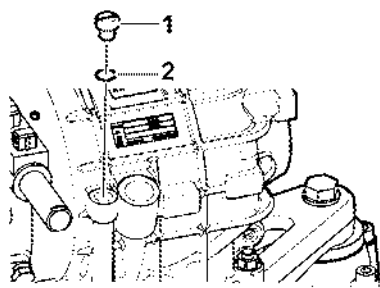

Figure 25
16. Install the plug (1, Figure 25) with the new O-ring (2, Figure 25). Tighten the plug (1, Figure 25) to the torque of 10 Nm using the suitable torque wrench.